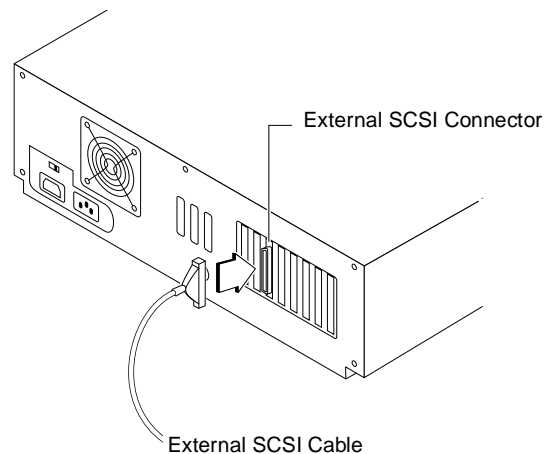

Figure 2-8. External Cable to Host Adapter
- 1 Attach one connector of the external SCSI cable to the external SCSI connector, as shown in Figure 2-8.